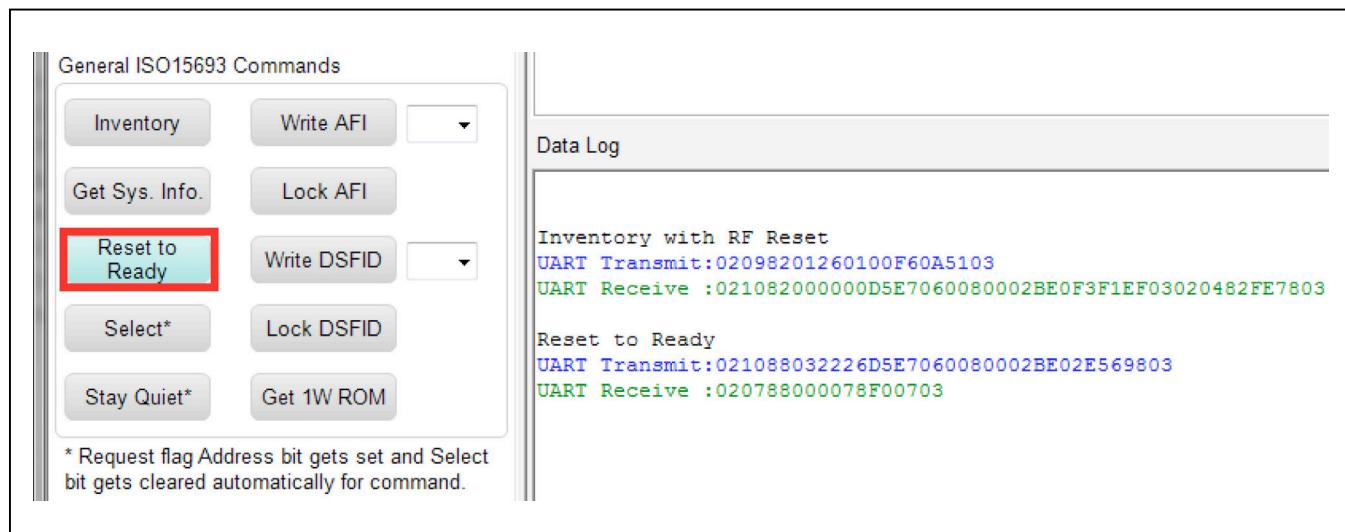

Figure 7. Reset to Ready Button
- 3) Click on the **Reset to Ready** button in (Figure 7) the **General ISO 15693 Commands** group box.